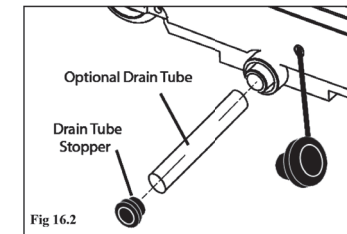

Fig 16.2
**NOTE**: You may also use enclosed Optional Drain Tube to facilitate the draining process, make sure to re-plug the Drain Stopper once the condensation tank has been emptied (Fig 16.2).